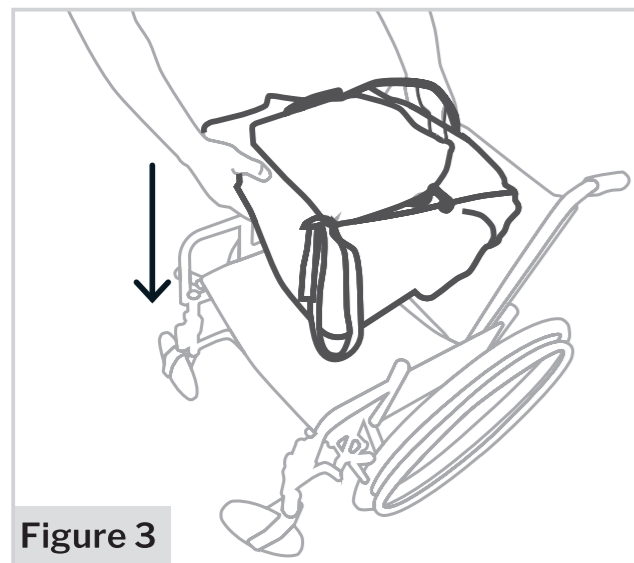

Figure 3
## B – PLACING THE SITNSTAND FOR WHEELCHAIRS ON A SUITABLE SEAT – FIGURE 3
A. Place the **SitnStand for Wheelchairs** folded on the wheelchair - **Figure 3**.